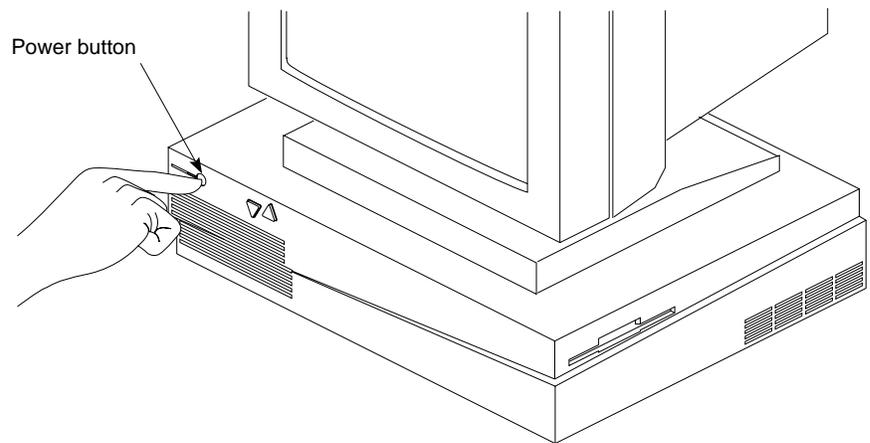

Figure 2-1 Turning Off the Challenge S Server
- Press and release the power button on the front of the server, as shown in Figure 2-1.